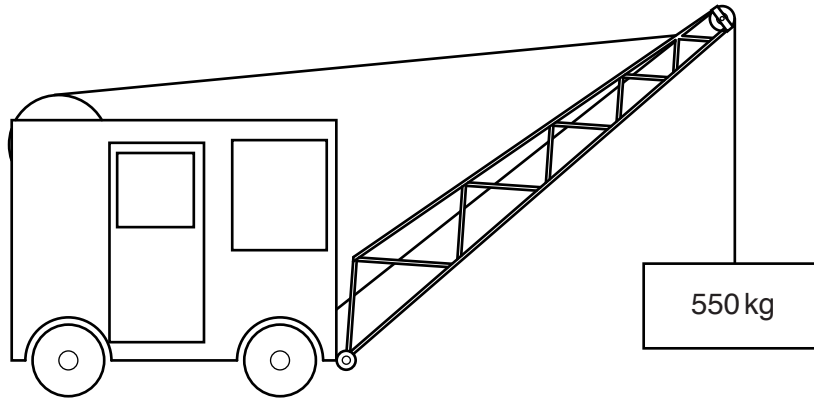

Fig. 8
- (c) (i) Fig. 8 shows a small crane lifting a 550 kg load.